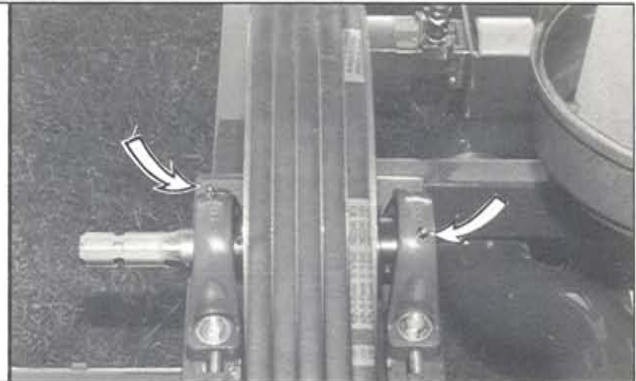

Figure 24 Lubrication input shaft
2. Input shaft front and rear bearings. (see figure 24)